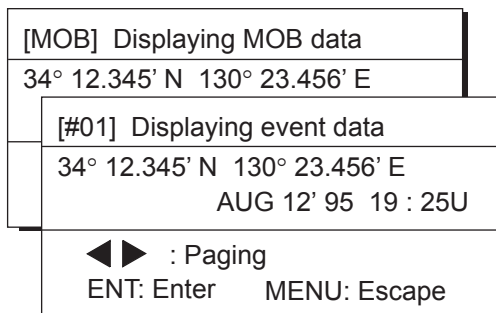

Figure 5-9
- 2) Press **2** to select MOB/Event Position. The display shown in Figure 5-9 appears.